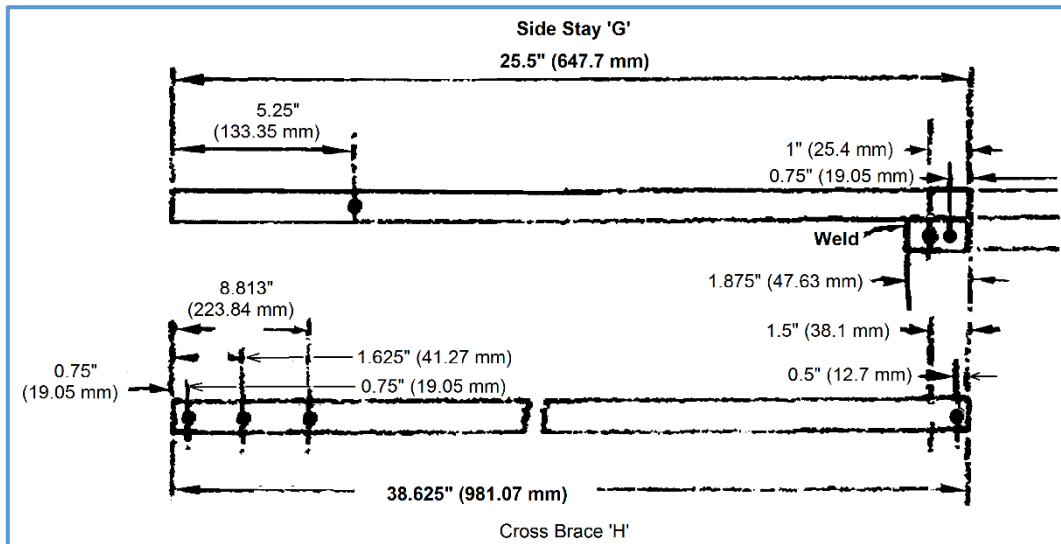
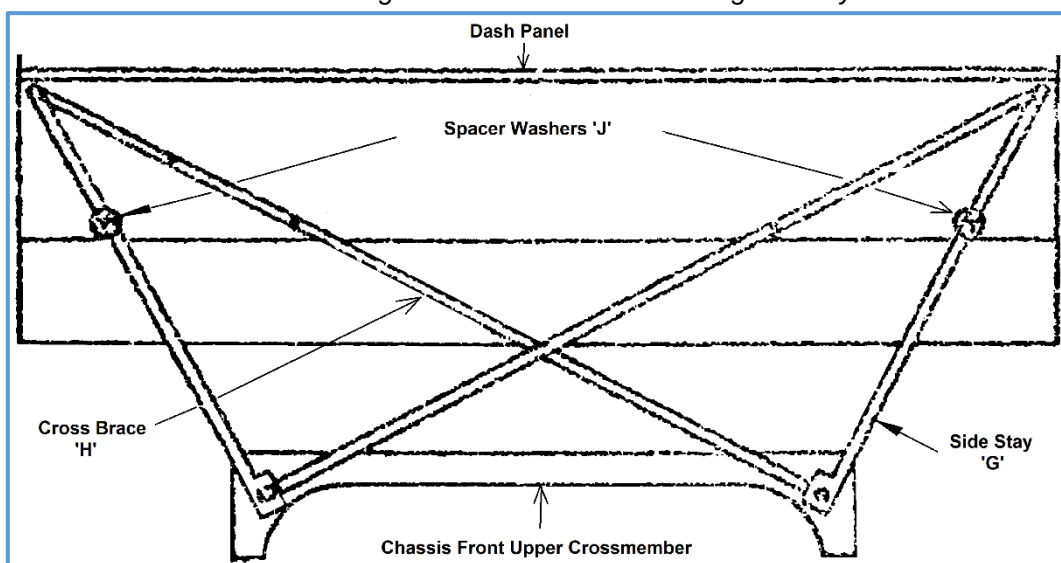

Figure 4. Sketch of side and diagonal stays.
Figure 5. Installation of side and diagonal stays.
- Fabricate from 1" x 1/4" strip mild steel bar two (2) side stays (G, Figure 4), and weld on two strips of the same material. Fabricate two cross braces (H, Figure 4). Bend the side stays to the required shape (see Figure 3) and fit together with the cross braces as shown in Figure 5, using 5/16" bolts (note: 8 mm bolts can be used). Fit 3/8" spacing washers 'J' of 2" (50.799 mm) outside diameter by 1/4" (6.35 mm) thick between the side stays and the dash panel assembly (refer to Figures 3 and 5) and a 3/8" flat washer with 2" outside diameter by 1/8" (3.175 mm) thick under the nuts beneath the dash panel.